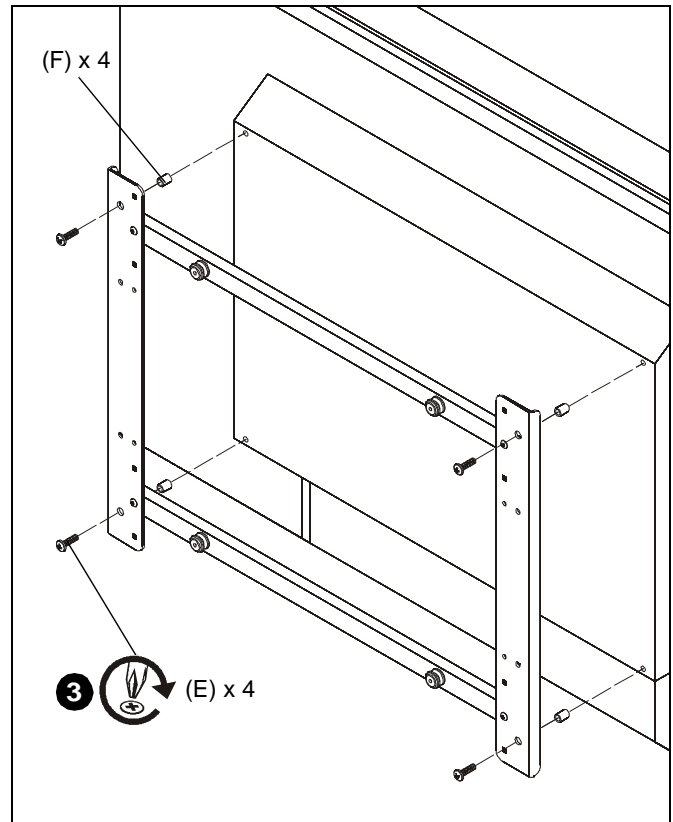

Figure 2
3. Use four 1/4-20 x 7/8" Phillips pan machine screws (E) and four spacers (F) to connect interface to display. (See Figure 2)